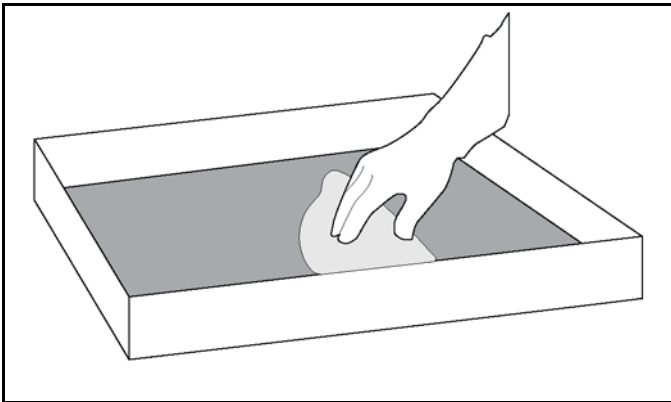

Figure-146
13. Place all of the release sheets clean side down flat on the release sheet storage tray. See Figure-146.